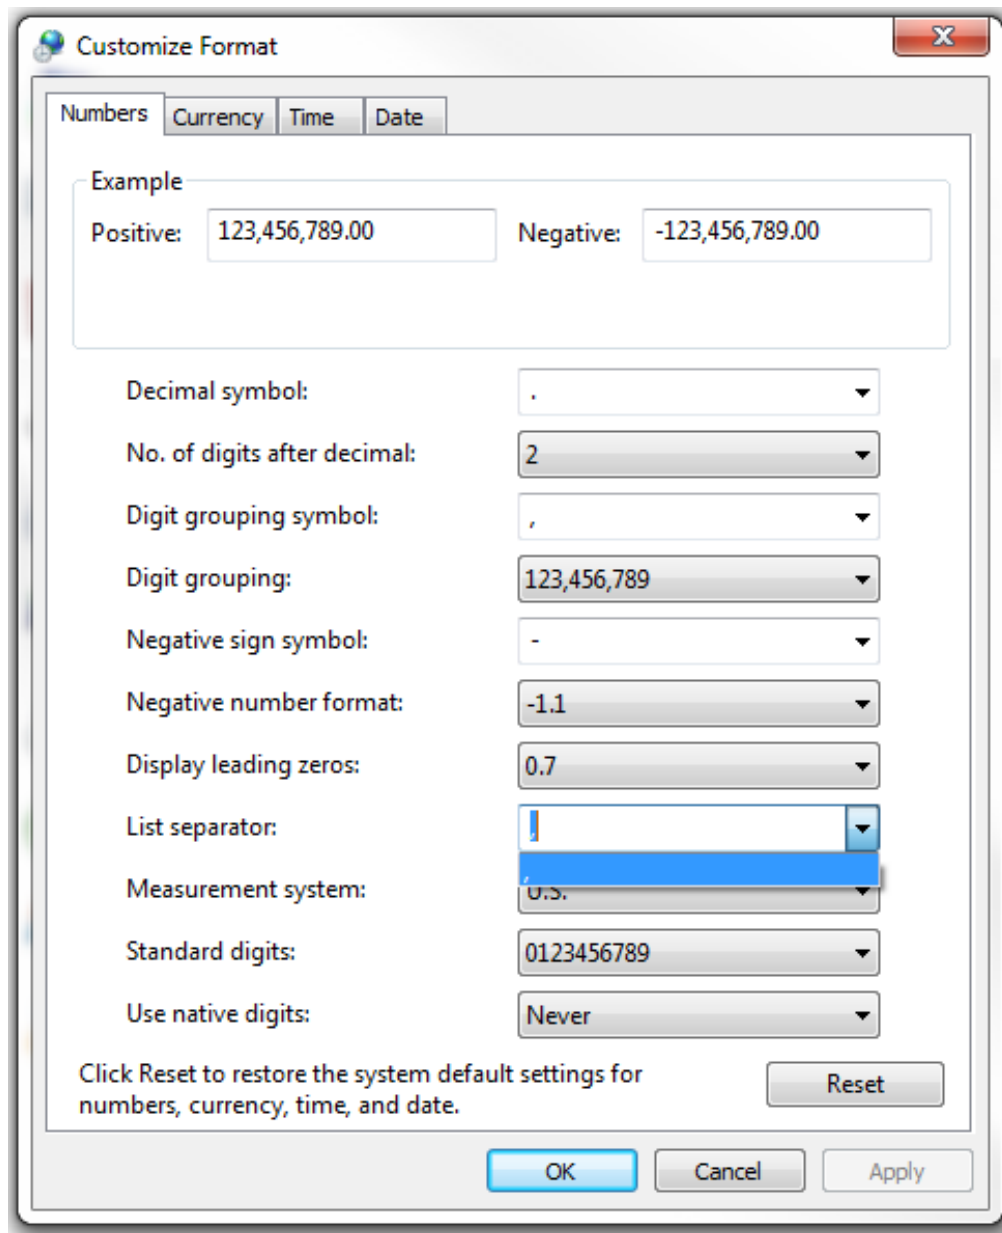

Figure 305: Customize Format Window
3. In the Region and Language window, click on the Additional Settings button. The Customize Format window displays (shown in Figure 305).